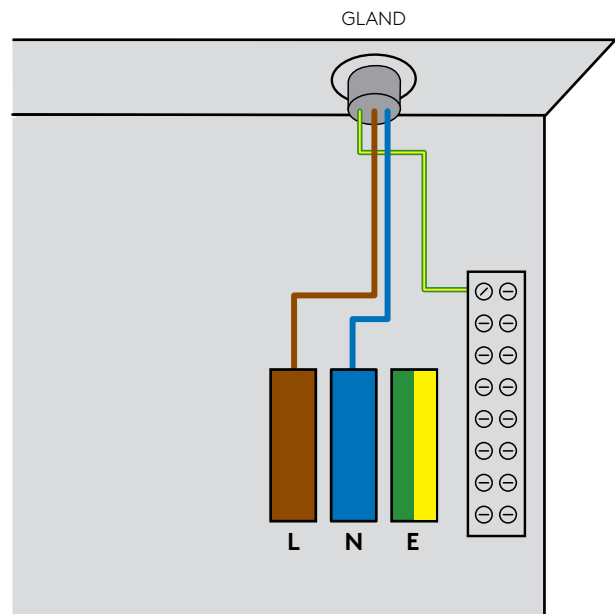

Figure 3. Incoming Mains Cable.
4. Wire the incoming mains cable: live (brown) and neutral (blue) wires to the main terminal. See *Figure 3*.
5. Connect the incoming earth (green and yellow) wire to the protected stud or earth bar. See *Figure 3*.